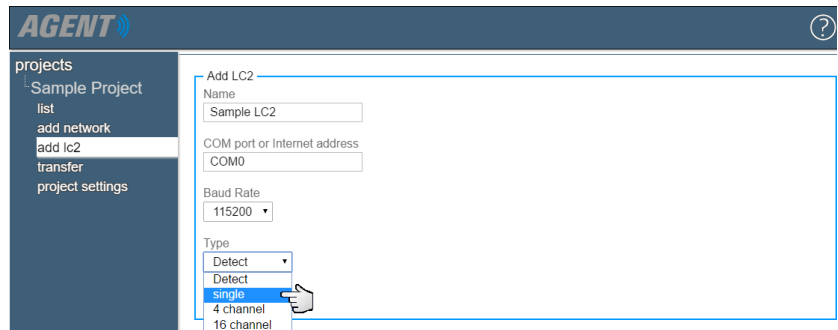

FIGURE 90: Select LC2 Type
- Select the correct LC2 type from the drop-down (*Figure 90*). Use **single** for all 8002-1 models, **4 channel** for all 8002-4 models, and **16 channel** for all 8002-16 models. **Detect** can only be used when the LC2 is connected to the PC.)